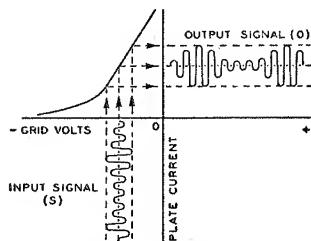

Fig. 34—Current characteristics of class A amplifier.
Fig. 34 gives a graphical illustration of this method of amplification and shows, by means of the grid-voltage vs. plate-current characteristics curve, the effect of an input signal (S) applied to the grid of a tube. The output signal (O)